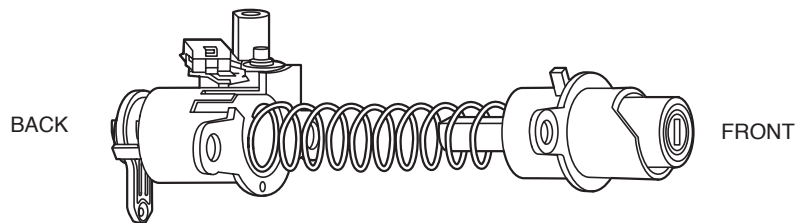

FIGURE 6
16. Insert the compression spring into the front of the rear housing and then fit the completed front housing assembly over the other end of the compression spring (refer to Figure 6). Use two (2) 3/8 inch binder clips (not included) to hold the two housings together.